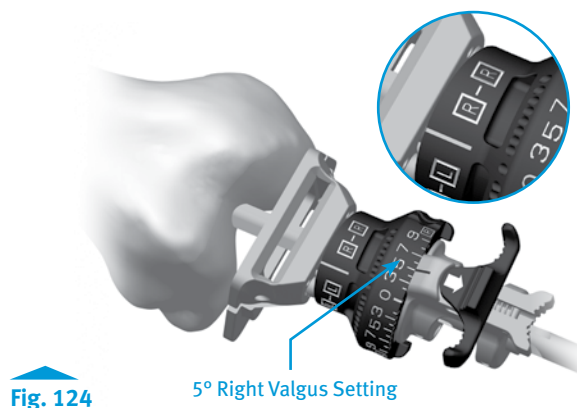

Fig. 124
- Place the Femoral Valgus Alignment Guide on the IM Rod against the most prominent condyle and confirm the desired valgus setting (**Fig. 124**).